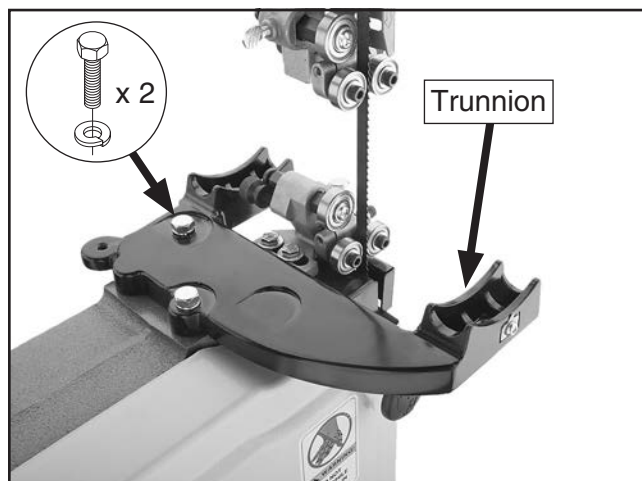

Figure 14. Trunnion installed.
9. Position the table trunnion on the bandsaw, as shown in **Figure 14**, then secure it with the (2) $\frac{5}{16}$ "-18 x 1 $\frac{1}{4}$ " hex bolts and (2) $\frac{5}{16}$ " lock washers.